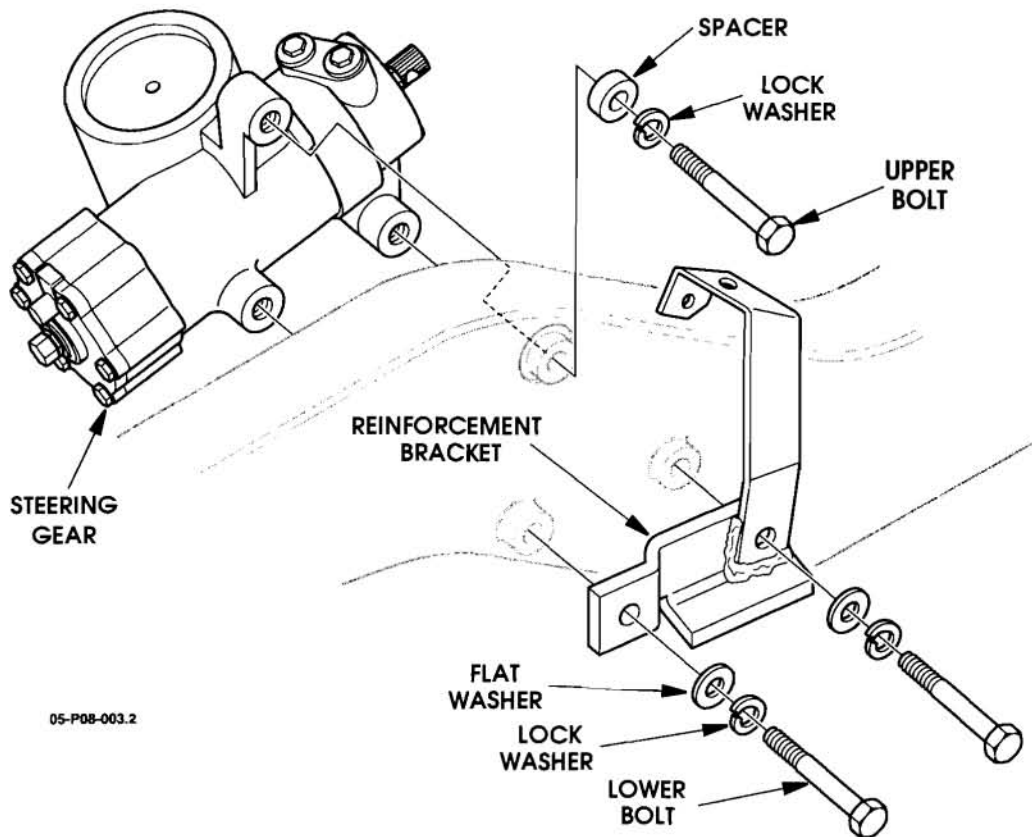

Figure 1: Steering Gear Attachment Hardware
1. Perform a visual inspection of the hardware attaching the steering gear to the frame. The **upper bolt** requires a spacer and a split lock washer (See Figure 1). Both **lower bolts** use only a flat washer and a split lock washer.